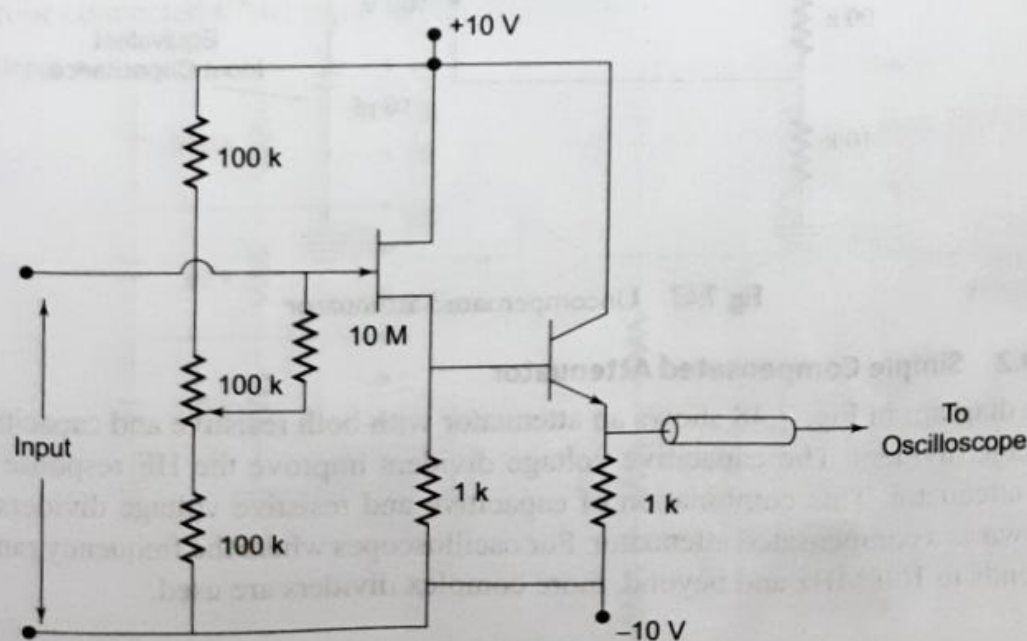

Fig. 7.46 FET probe
**Active Probes Using FETs** Figure 7.46 shows a basic circuit of an active probe using a FET.